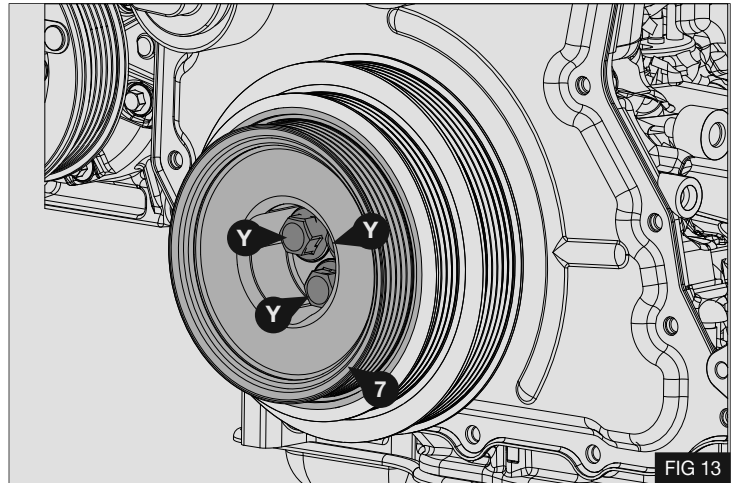

FIG 13
7. Install pulley assembly to vehicle and secure using original bolts (Y). Fig 13